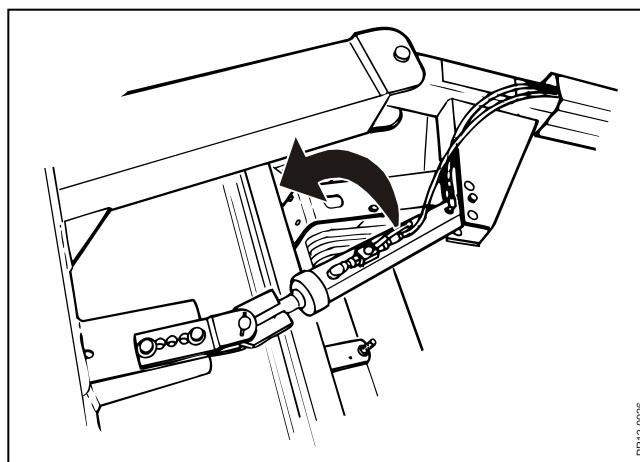

Fig. 2-9
**Fig. 2-9** After the machine has been turned in transport position the ball valve by the cylinder for the drawbar must be closed. This must be done in case of leaking hoses or unintended use of the hydraulic outlet during transport to prevent the machine from swinging into working position during transport. Move the handle on the ball valve in direction of the arrow, as shown in the figure, in order to turn off the oil supply.